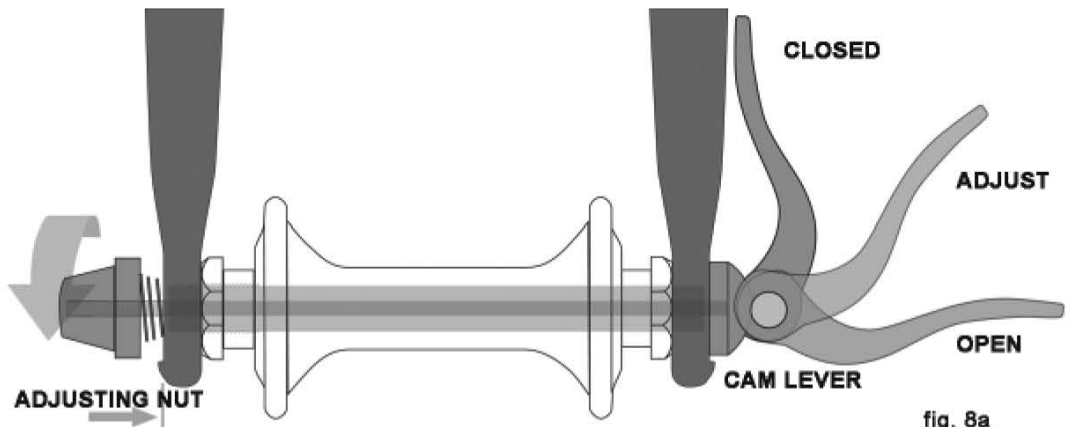
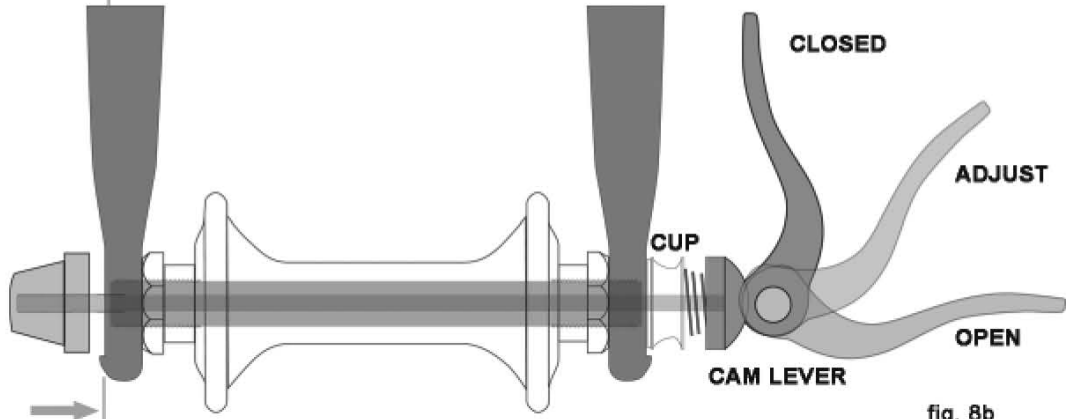
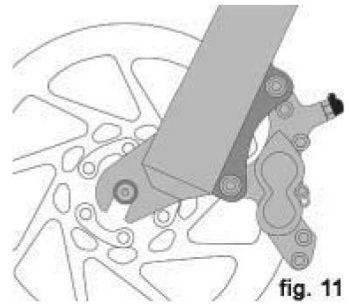

fig. 8a
fig. 8b
fig. 11
There are currently two types of over-center cam wheel retention mechanisms: the traditional over-center cam (fig. 8a) and the cam-and-cup system (fig. 8b). Both use an over-center cam action to clamp the bike's wheel in place. Your bicycle may have a cam-and-cup front wheel retention system and a traditional rear wheel cam action system.
**a. Adjusting the traditional cam action mechanism (fig. 8a)**
**b. Adjusting the cam-and-cup mechanism (fig. 8b)**
- (1) If your bike has rim brakes, disengage the brake's quick-release mechanism to increase the clearance between the tire and the brake pads (See Section 4.C fig. 11 through 15).
- (2) If your bike has cam action front wheel retention, move the cam lever from the locked or CLOSED position to the OPEN position (fig. 8a & b). If your bike has through bolt or bolt-on front wheel retention, loosen the fastener(s) a few turns counter-clockwise using an appropriate wrench, lock key or the integral lever.
- (3) If your front fork has a clip-on type secondary retention device, disengage it. If your front fork has an integral secondary retention device, and a traditional cam action system (fig. 8a) loosen the tension adjusting nut enough to allow removing the wheel from the dropouts. If your front wheel uses a cam-and-cup system, (fig. 8b) squeeze the cup and cam lever together while removing the wheel. No rotation of any part is necessary with the cam-and-cup system.
- (1) If your bike has cam action front wheel retention, move the cam lever so that it curves away from the wheel (fig. 8b). This is the OPEN position. If your bike has through bolt or bolt-on front wheel retention, go to the next step.
- (2) With the steering fork facing forward, insert the wheel between the fork blades so that the axle seats firmly at the top of the fork dropouts. The cam lever, if there is one, should be on rider's left side of the bicycle (fig. 8a & b). If your bike has a clip-on type secondary retention device, engage it.
- (3) If you have a traditional cam action mechanism: holding the cam lever in the ADJUST position with your right hand, tighten the tension adjusting nut with your left hand until it is finger tight against the fork dropout (fig. 8a). If you have a cam-and-cup system: the nut and cup (fig. 8b) will have snapped into the recessed area of the fork dropouts and no adjustment should be required.
- (4) While pushing the wheel firmly to the top of the slots in the fork dropouts, and at the same time centering the wheel rim in the fork:
- (a) With a cam action system, move the cam lever upwards and swing it into the CLOSED position (fig. 8a & b). The lever should now be parallel to the fork blade and curved toward the wheel. To apply enough clamping force, you should have to wrap your fingers around the fork blade for leverage, and the lever should leave a clear imprint in the palm of your hand.
- (2) If your bike has rim brakes, disengage the brake's quick-release mechanism to increase the clearance between the wheel rim and the brake pads (see Section 4.C, fig. 11 through 15).
- (3) On a derailleur gear system, pull the derailleur body back with your right hand.
- (4) With a cam action mechanism, move the quick-release lever to the OPEN position (fig. 8b). With a through-bolt or bolt-on mechanism, loosen the fastener(s) with an appropriate wrench, lock lever or integral lever; then push the wheel forward far enough to be able to remove the chain from the rear sprocket.
- (5) Lift the rear wheel off the ground a few inches and remove it from the rear dropouts.
- (1) With a cam action system, move the cam lever to the OPEN position (see fig. 8a & b). The lever should be on the side of the wheel opposite the derailleur and freewheel sprockets.
- (2) On a derailleur bike, make sure that the rear derailleur is still in its outermost, high gear, position; then pull the derailleur body back with your right hand. Put the chain on top of the smallest freewheel sprocket.
- (3) On single-speed, remove the chain from the front sprocket, so that you have plenty of slack in the chain. Put the chain on the rear wheel sprocket.
- (4) Then, insert the wheel into the frame dropouts and pull it all the way in to the dropouts.
- (5) On a single speed or an internal gear hub, replace the chain on the chainring; pull the wheel back in the dropouts so that it is straight in the frame and the chain has about 1/4 inches of up-and-down play.
- (6) With a cam action system, move the cam lever upwards and swing it into the CLOSED position (fig. 8a & b). The lever should now be parallel to the seat stay or chain stay and curved toward the wheel. To apply enough clamping force, you should have to wrap your fingers around the fork blade for leverage, and the lever should leave a clear imprint in the palm of your hand.
- (7) With a through-bolt or bolt-on system, tighten the fasteners to the torque specifications in Appendix C or the hub manufacturer's instructions.
- 3. Some bicycle brakes, such as disc brakes (fig. 11) and linear-pull brakes**